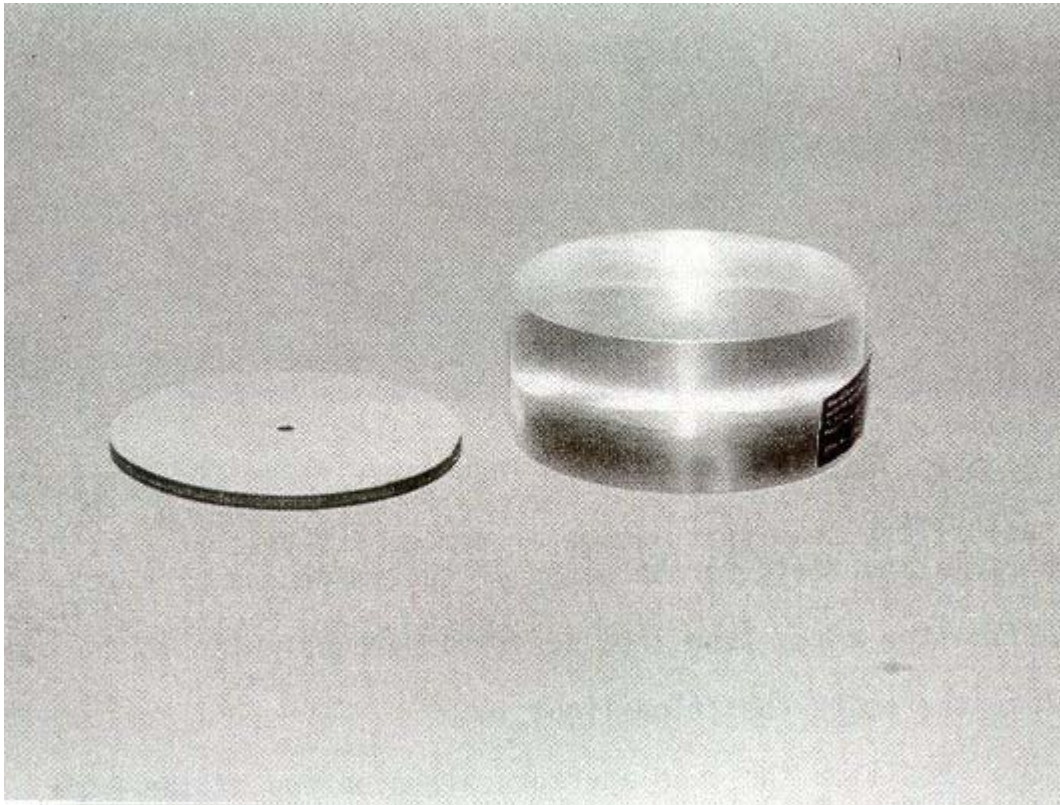

Figure 6-4. Plexiglas spacer block 5 cm thick and lead aperture plate with a hole in the middle.
- b. Lead aperture plate with a hole in the middle (see figure 6-4).